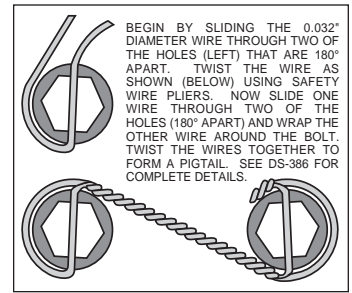

Figure 5. Safety Wire Diagram
- The hat/rotor assembly (4) has been pre-assembled at the factory using red *Loctite*[®] 271 on the mounting bolts and torqued to specification. For an added measure of security, the bolts may be safety wired using standard 0.032 inch diameter stainless steel safety wire as shown in Figure 5. Please refer to Wilwood's data sheet DS-386 (available at www.wilwood.com/Pdf/DataSheets/ds386.pdf) for complete safety wire installation instructions.